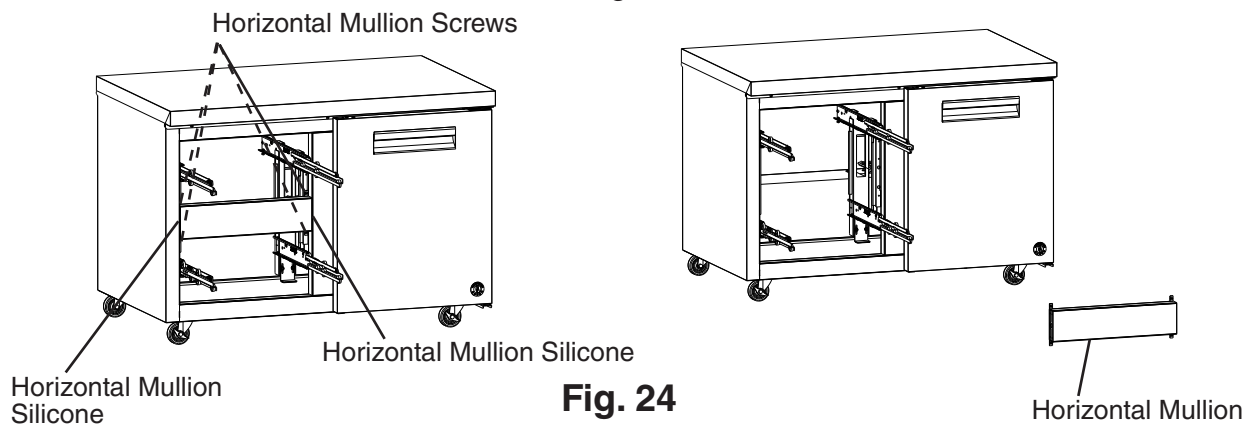

Fig. 24
- 3) Remove the 4 horizontal mullion screws, then cut the horizontal mullion silicone loose and remove the horizontal mullion. See Fig. 24.